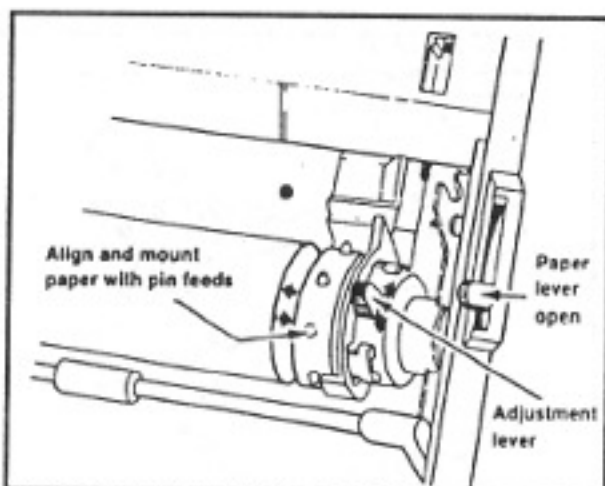

FIGURE 57. Adjustable Pin Feed.
6. Align and mount the holes of the paper with the corresponding pins (Figure 57).